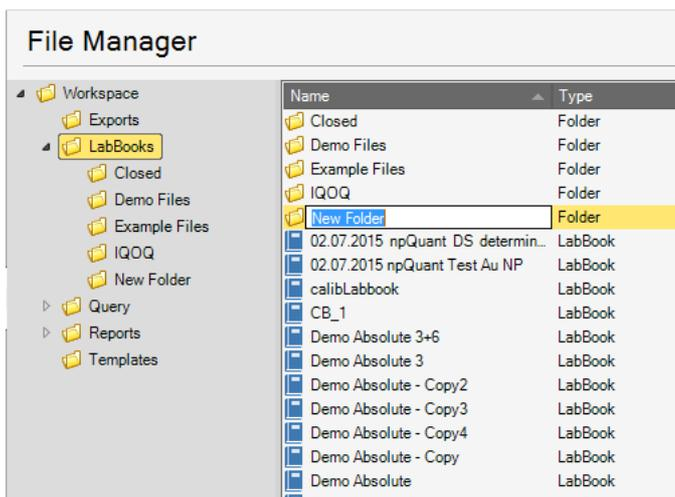

Figure 4-60. Naming new network link to folder
5. Enter a name for the new folder, see Figure 4-60.